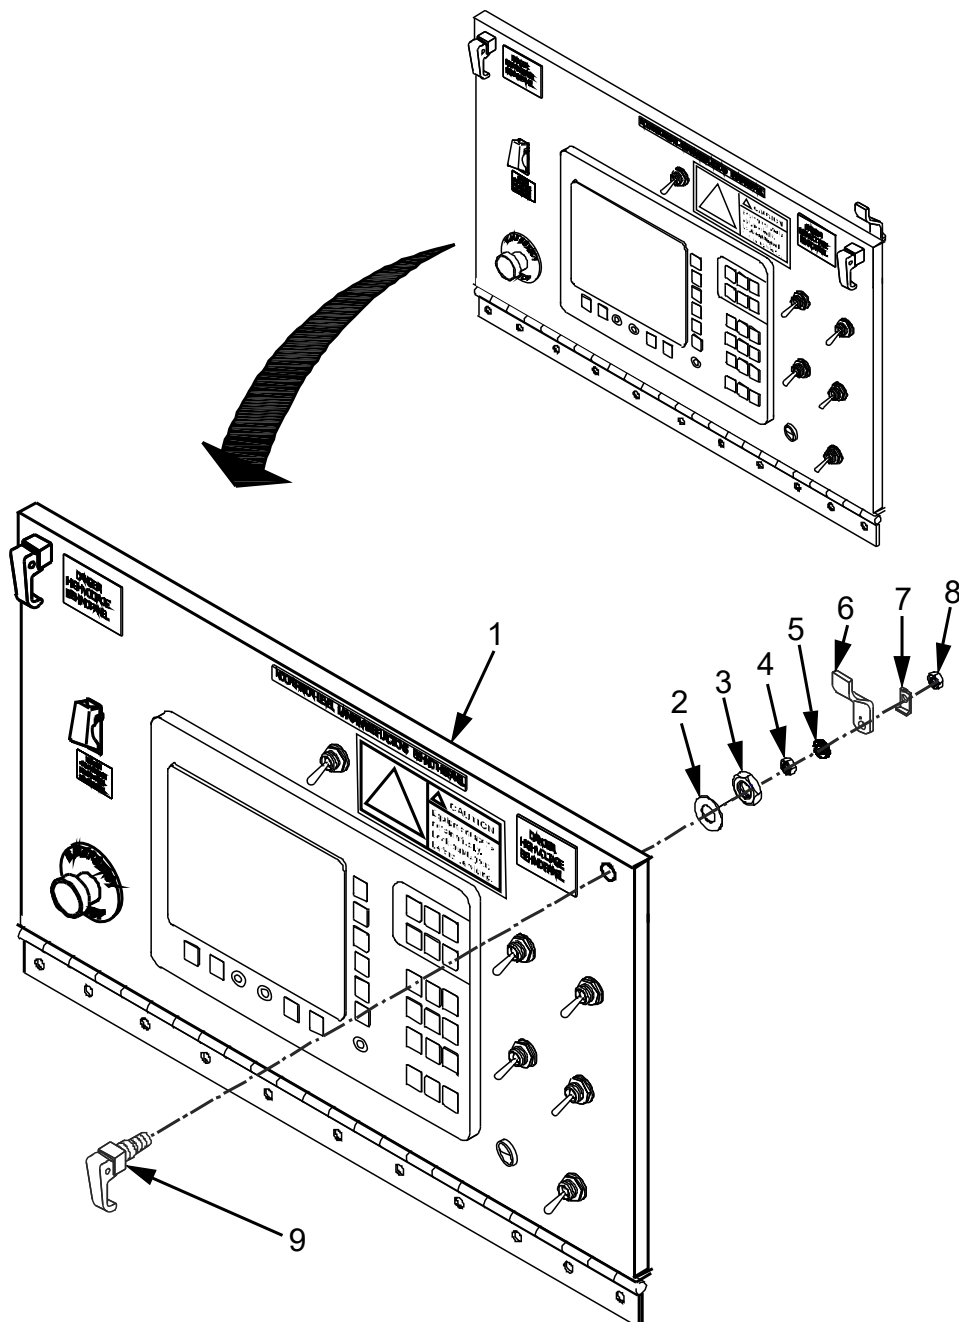

Figure 1. Control Panel Latch Removal/Replacement.
3. Remove lock nut (Figure 1, Item 8), spacer (Figure 1, Item 7), latch (Figure 1, Item 6), lock washer (Figure 1, Item 5), nut (Figure 1, Item 4), retainer nut (Figure 1, Item 3), flat washer (Figure 1, Item 2), and latch handle (Figure 1, Item 9) from control panel (Figure 1, Item 1) and discard.
1. Insert new latch handle (Figure 1, Item 9) into opening in control panel (Figure 1, Item 1).
2. Secure latch handle (Figure 1, Item 9) with flat washer (Figure 1, Item 2) and retainer nut (Figure 1, Item 3). Tighten retainer nut (Figure 1, Item 3).
3. Attach nut (Figure 1, Item 4), lock washer (Figure 1, Item 5), latch (Figure 1, Item 6), spacer (Figure 1, Item 7) and lock nut (Figure 1, Item 8). Tighten assembly.
4. Close control panel (Figure 1, Item 1).